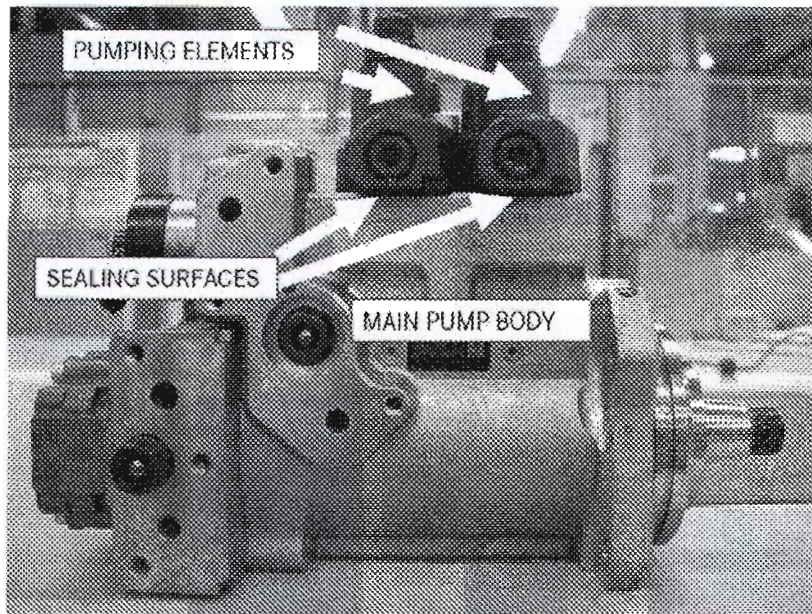

Figure 5 – High Pressure Fuel Pump Inspection Area
5. **CAREFULLY** inspect the two high pressure fuel pump elements where they seal to the main pump body. See Figure 5.